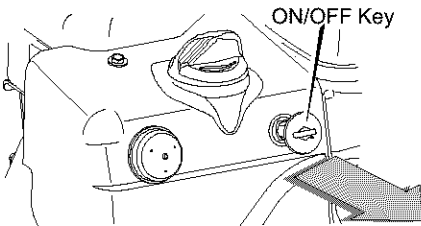

Figure 21
2. Pull out and remove the ON/OFF key (see Figure 21). Keep the ON/OFF key in a safe place. The engine will not start without the ON/OFF key.